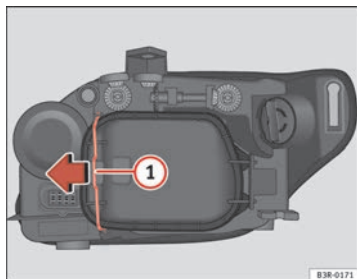

Fig. 198 Side light bulb (inside of vehicle)
- Move the brace $\Rightarrow$ fig. 198 ① in the direction of the arrow and remove the rigid cover, separating the brace side and then removing the two tabs from the other end of the cover.